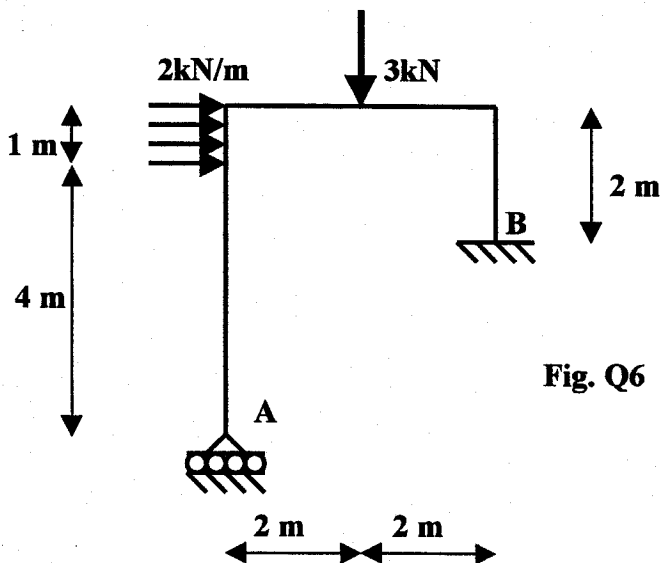

Fig. Q6
6. Using the principle of virtual work, find the reaction forces for the frame shown in Fig. Q6. Draw the bending moment diagram for this structure (EI , a constant). There is a roller support at point A and point B is fixed.